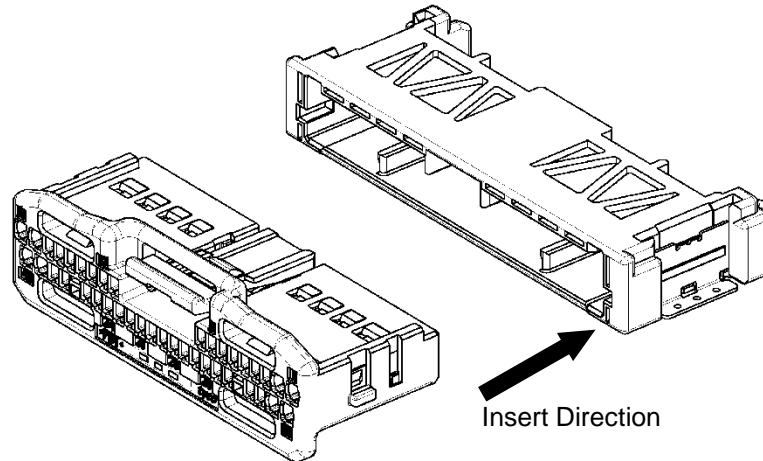

Fig.15
- (1) Check to make sure that the contact is inserted into the housing in proper condition, the wire is taped up from proper position, and the retainer is in final lock condition. If the retainer is in pre-assembled condition, it must be changed to be in final lock condition. See para.5.
- (2) And then check the contact and the housing into the male housing for defects, deformation, discoloration, damage, rust, crack, deficit, etc.
- (3) Insert the proper female housing into the male housing straight with same direction as shown in Fig.15. The operation is finished when you hear the click sound and can not insert further. When you can not insert the housing, do not insert by force, and check the items in (1),(2).